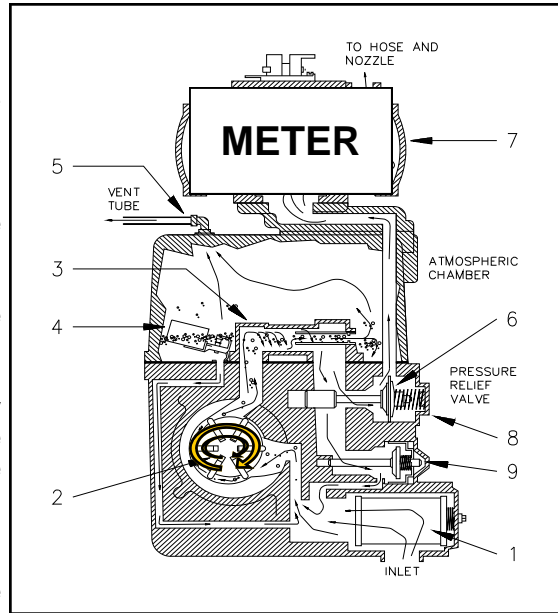

Figure 5
1. The fuel is drawn from the storage tank through the strainer screen or filter (1). See Figure 5.
2. The rotary vane pumping unit (2) pressurizes the fluid.
3. Fuel enters the centrifugal air separator assembly (3). Any air that is present is forced out the air tube along with a small amount of liquid into the atmospheric chamber.
4. When the liquid level in the chamber lifts the float and valve assembly (4), the liquid collected in the atmospheric chamber is returned to the pump intake.
5. Air is then vented to the atmosphere through the vent tube (5).
6. Air free fuel leaving the air separator opens the control valve (6) and is pumped into the meter (7).
7. The control valve includes a built-in relief valve (8) which relieves excess pressure caused by hot weather expansion.
8. Whenever the nozzle is not fully opened, some liquid is relieved into the pump intake through the bypass valve (9).